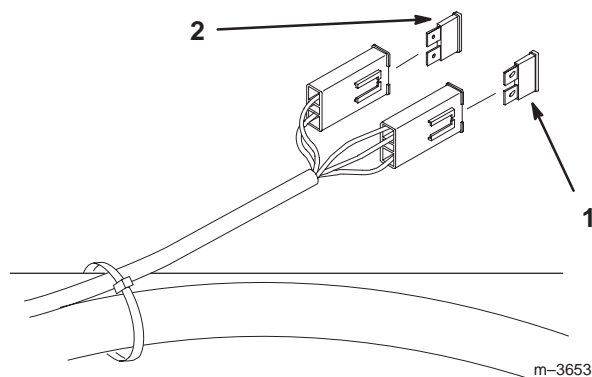

Figure 54
1. Raise the seat to gain access to fuse holder (Fig. 54).
2. To replace fuses pull out on the fuse to remove it (Fig. 54).